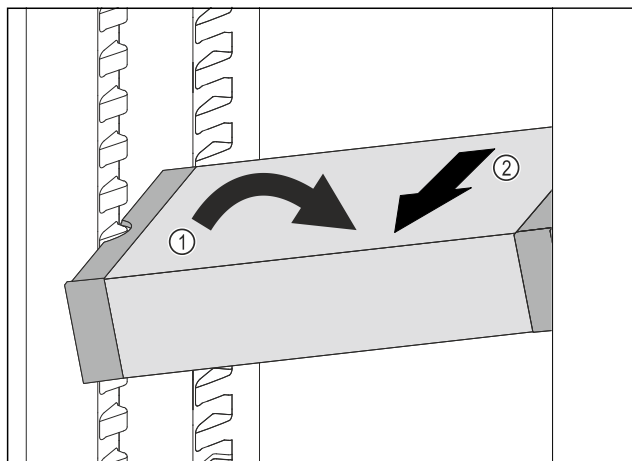

Fig. 102
- Set VarioSafe in refrigerator compartment at an angle. Fig. 102 (1)
- Take VarioSafe out to the front. Fig. 102 (2)